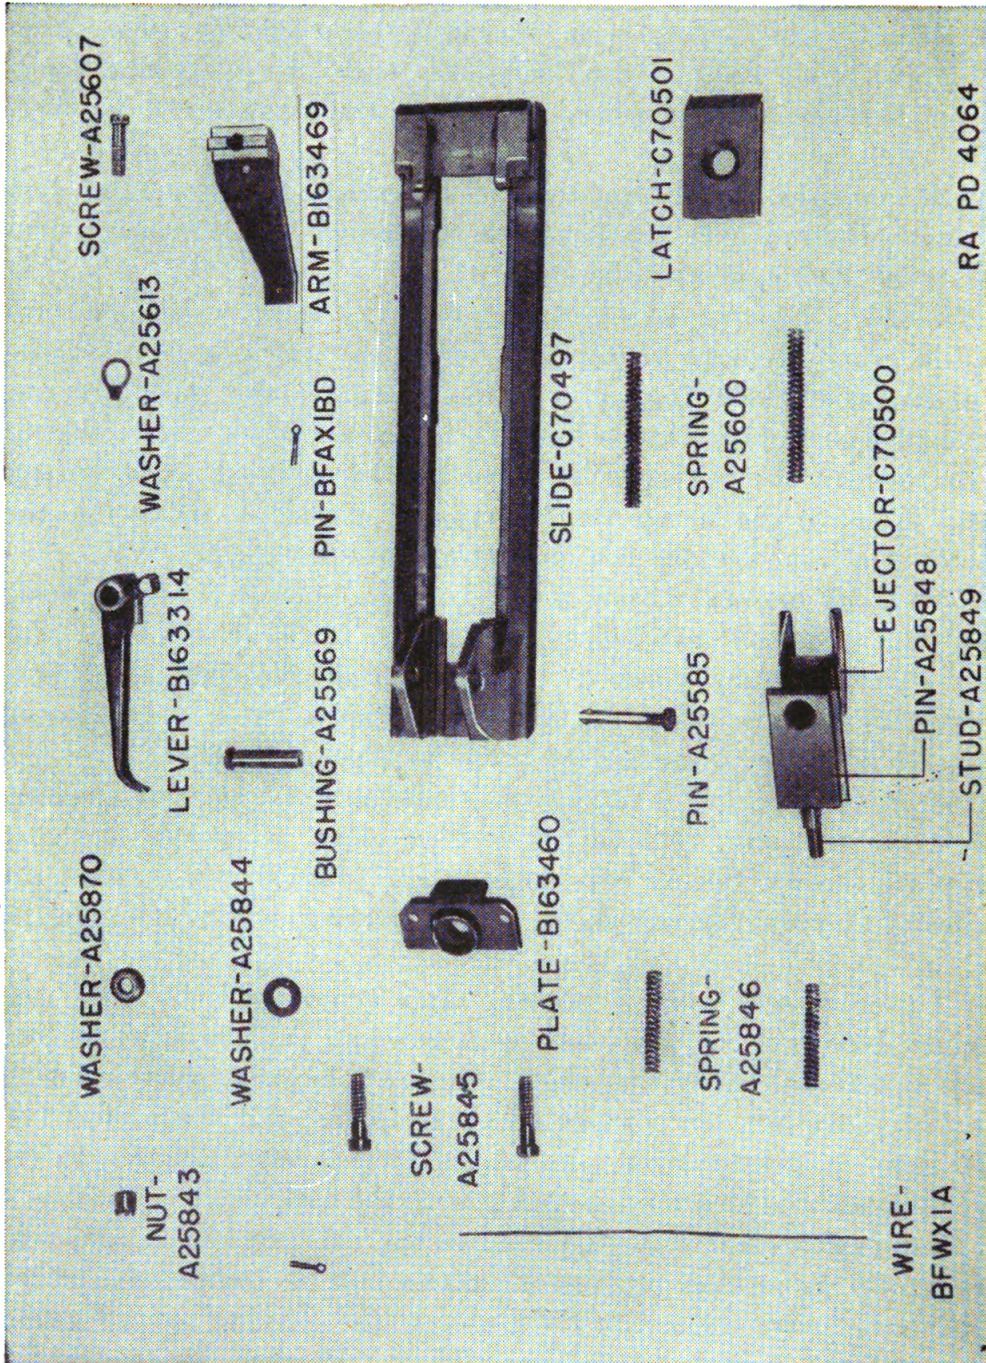

FIGURE 11.—20-mm automatic gun M2, magazine and slide locking group parts.
c. Magazine and slide locking group.—(1) Remove the cotter pin, unscrew the ejector stud nut, and remove the washers and the ejector with the springs.
(2) Remove the locking wire, unscrew the magazine slide backplate screws, and remove the backplate with the magazine latch springs. Remove the split pin and bushing, the magazine slide lever, and the latch.
(3) Remove the cotter pin and the magazine slide securing arm screw with the washer. Remove the magazine slide securing arm and slide off the magazine slide (fig. 11).